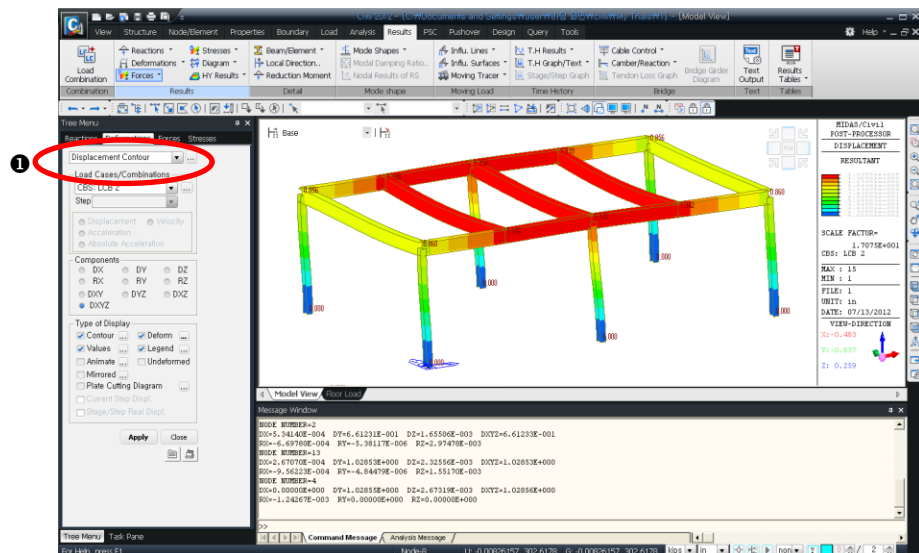

Figure 1.29 Deformed Shape (Contour lines)
1. Select **Displacement Contour** from the functions selection field (Fig.1.29–①).
2. Select “**CBS:LCB2**” from the **Load Cases/Combinations** selection field. ②
② ST: Static Load Case
The Gradation method is a tool to smoothen the contour distribution shown in Fig.1.29. In addition, the model is displayed in **Perspective View**.